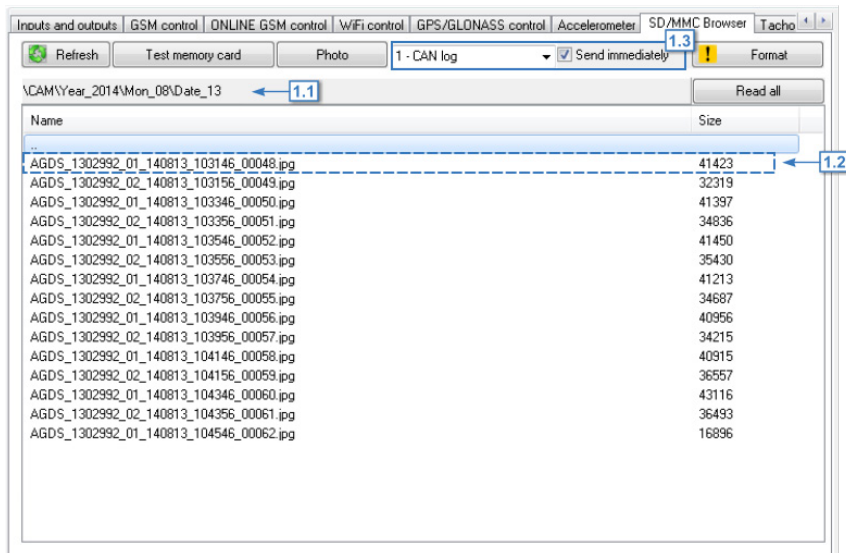

Fig.83. "SD/MMC Browser" tab.
To do the memory test, connect the device to a PC. Make sure that the SD card is inserted. Then, press the "Test the memory card" button (Fig.83). After finishing, the test status will be displayed in the status window of the program.
The memory content (Fig.83, i.1).
After the reading, the list of file will be displayed in the program. The path to the opened folder of the memory is displayed above the list (Fig.83, i.1.1). Pressing the path opens the folder on local hard drive containing photos files from the device memory to the hard drive.
1. Photos from camera (Fig.83, i. 1.2).
The copy of the photo will be loaded in the \SD folder in the AG.GSMConf program folder. The \SD folder has nested internal folders like the \CAM folder on the device memory. To open the \SD folder, press the path above the list of files (Fig.83, i. 1.1).
To copy a log file from the device memory on hard driver, double click the file. To copy all photos from the opened folder, press the “Read all” button. The copy of the files will be loaded in the \SD folder in the AG.GSMConf program folder. To open the \SD folder, press the path above the list of files (Fig.83, i. 1.1).
To enable the device to write log files, select the required log to write in a drop-down list on the right of the “Photo” button (Fig.83, i. 1.3):